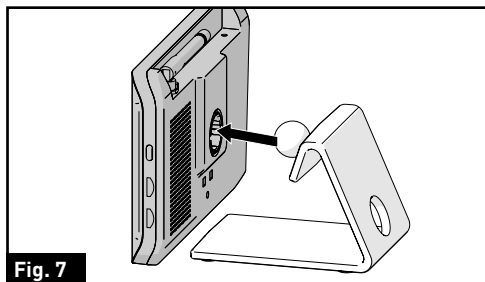

Fig. 7
3. Align the dot bullet of the tabletop bracket with the opening on back of the monitor and push firmly until locked into place. (Fig. 7)